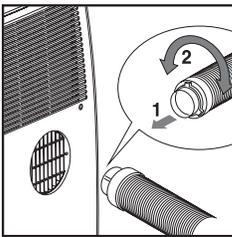

Fig. 1.
Part 1: Fit the air exhaust hose in the housing at the back of the unit (fig. 1).
- Fit the hose in the housing at the back of the unit (fig.1).